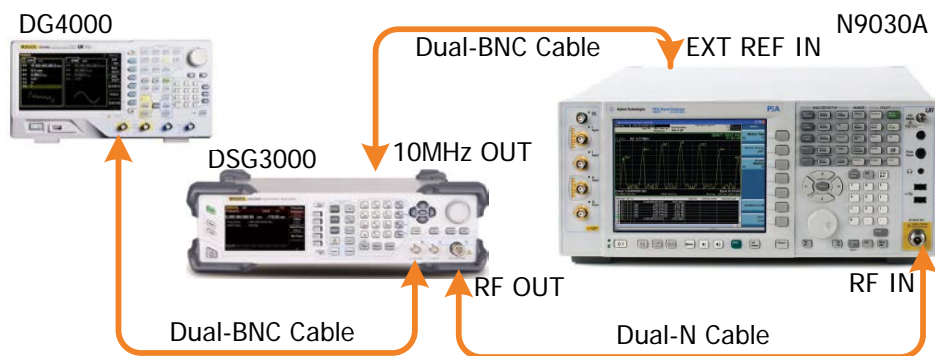

Figure 2-9 FM External Modulation Test Connection Diagram
1. Synchronize the DSG3000 and signal analyzer. Connect the RF output terminal of the DSG3000 with the RF input terminal of the signal analyzer. Connect the signal output terminal (e.g. CH1 output) of the function/arbitrary waveform generator with the external modulation input terminal of the DSG3000 as shown in Figure 2-9.